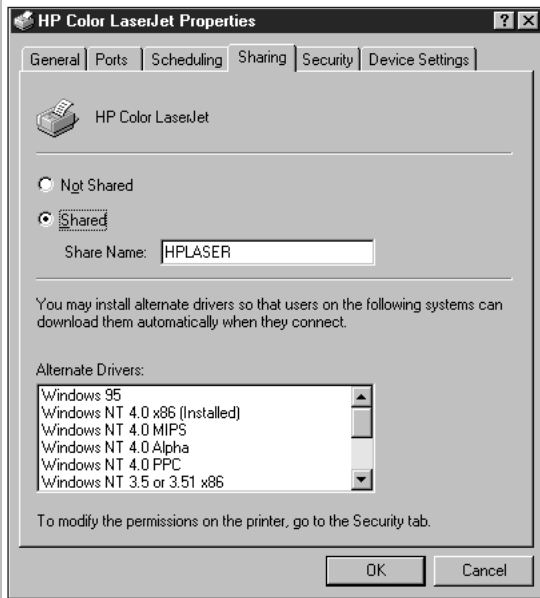

Figure 18-13 Windows NT printer sharing requires that you give the printer a name
1. On the Windows NT PC, allow print sharing: click **Start**, point to **Settings**, and click **Printers**. The Printers window opens. Right-click the printer you want to share, and select **Sharing** from the shortcut menu. The printer Properties dialog box opens, as seen in Figure 18-13. Select **Shared** and enter a name for the printer. Click **OK** when done.